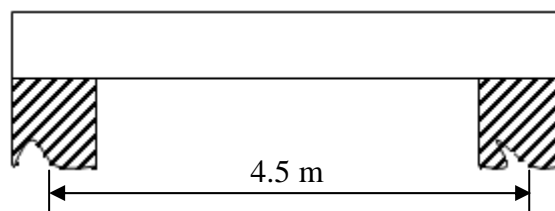

Figure 2.0
2. a) A simply supported square concrete slab spanning in two directions as shown in Figure 2.0 is to be designed to carry an imposed load of 3.5 kN/m^2 , finishes and ceiling of 1.0 kN/m^2 excluding the selfweight of slab. The characteristic strengths of the materials are $f_{cu} = 30 \text{ N/mm}^2$ and $f_y = 460 \text{ N/mm}^2$. Assume span-effective depth ratio of 20 with modification factor of 1.3.